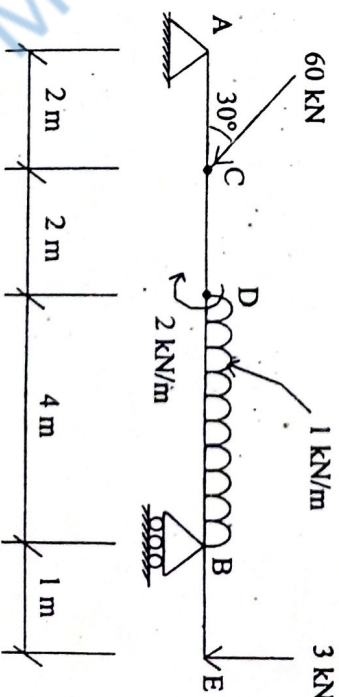

Fig. 3
- Q4 (a) The T-shaped cross section of a beam shown in fig.3 is subjected to a vertical shearforce of 100 kN. Draw the shear stress distribution diagram for the section and find the maximum shearing stress across the section. 6